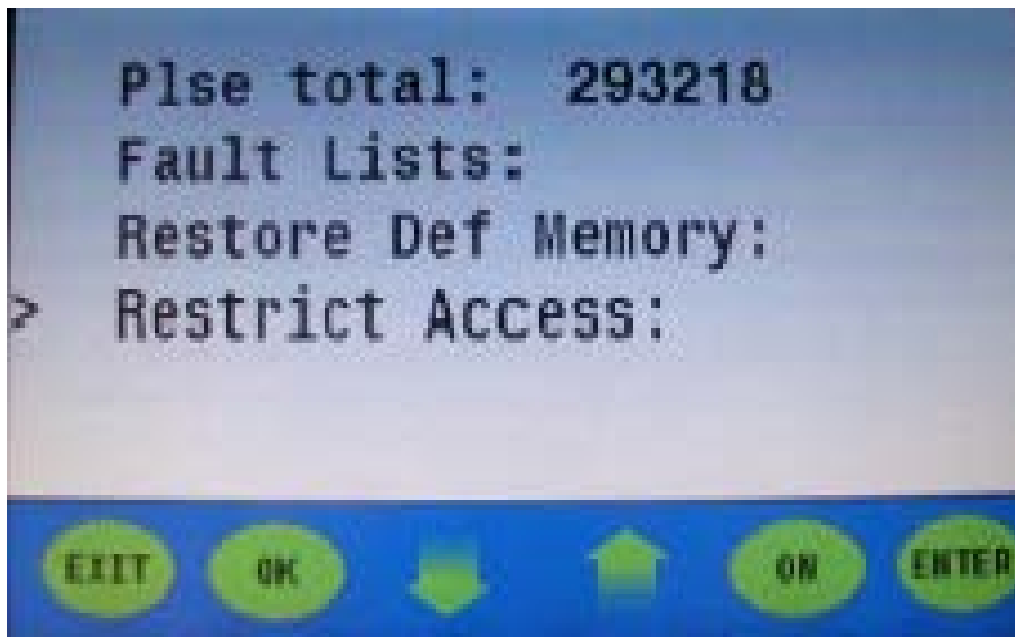
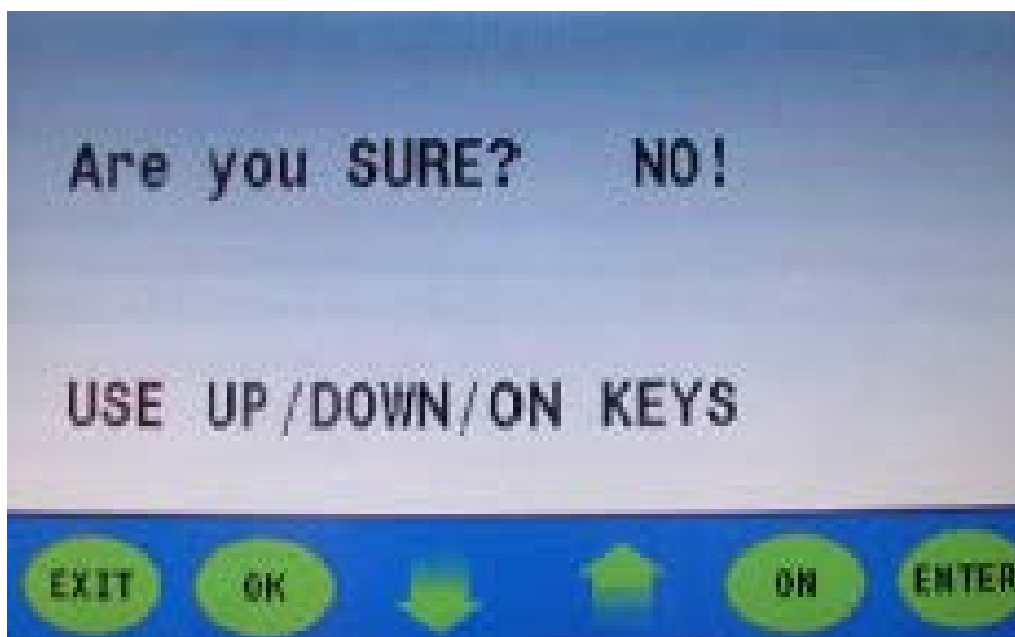

Figure 2
Figure 3
2. Using the **down arrow**, scroll to "**restrict access**" (**figure 2**).
3. Press the **enter button** (**figure 2**); the display will read "**no**" (**figure 3**).